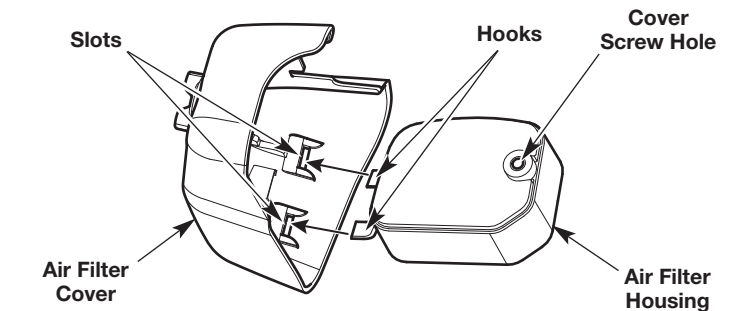

Fig. 23
7. Insert the hooks on the air filter housing into the slots on the air filter cover (Fig. 23).
8. Swing the air filter cover to the right and align the cover screw with the cover screw hole (Fig. 23). Tighten the cover screw to secure the air filter cover.